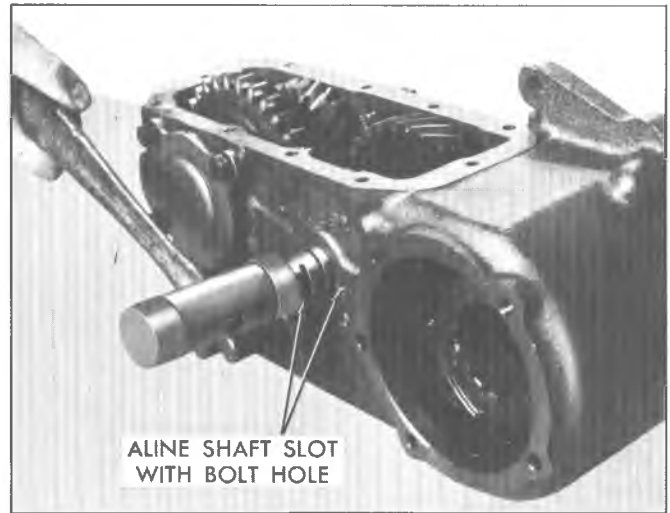

Fig. 16D--Installing Intermediate Shaft
17. Using dummy shaft J-23419, install needle bearings and spacers in intermediate gear. Position thrust washers in case with tang in groove on case and supporting intermediate gear in case, installing intermediate shaft through rear of case as shown in Figure 16D.